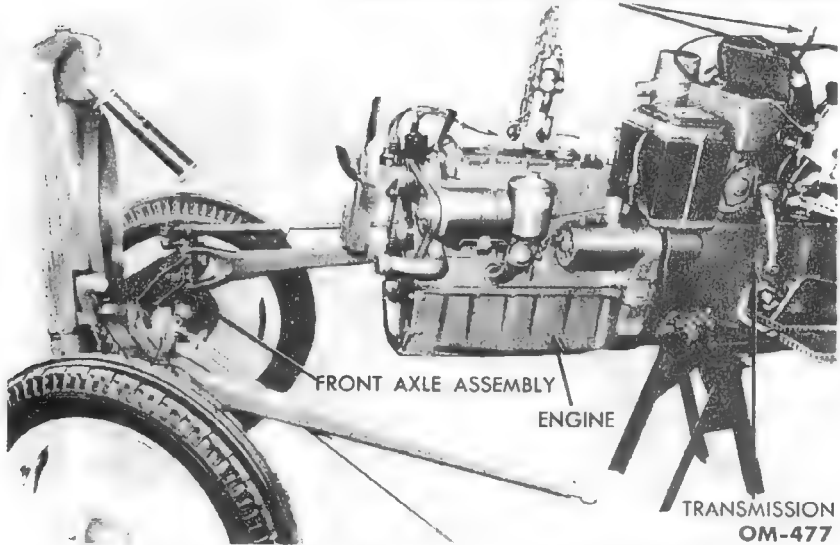

Fig. 38—Installing Engine
b. Remove Engine. Support the tractor under the transmission housing. Drain the radiator and the engine block. Drain the crank case. Remove the radiator hose. Disconnect radius rods from transmission case (fig. 38), and drag links from Pitman arms. Remove the six bolts that secure the front axle support to the engine assembly. Disconnect and label the generator, starter and coil electrical leads. The electrical connections may then be hung on the dash assembly. Remove the choke and governor control rods. Remove the air line from the air cleaner to the carburetor. Remove the oil pressure gauge line. Disconnect the proof-meter cable at governor and muffler from the exhaust manifold. Support the engine (fig. 38), and remove the cap screws which fasten the engine to the transmission. Slide the engine assembly ahead to disengage the clutch shaft. Remove the engine.